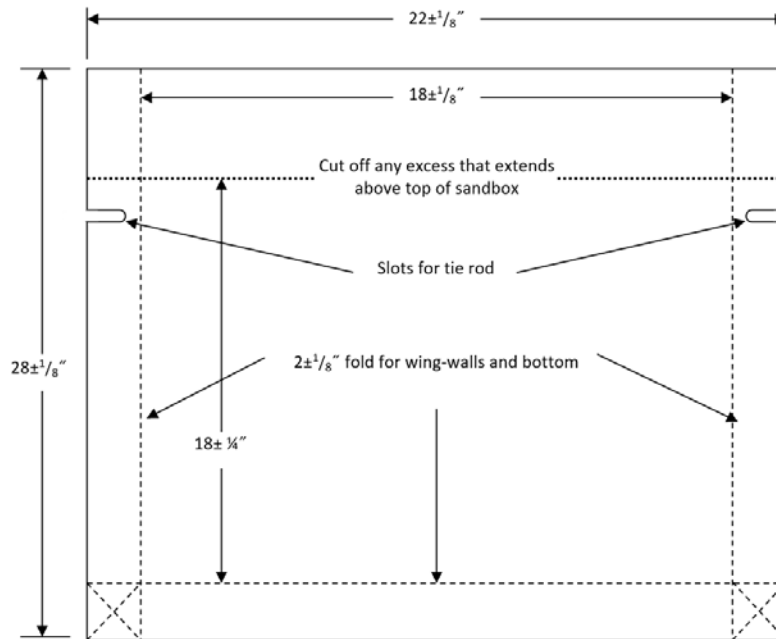

Figure 6: Dimensions of the poster board wall facing (not to scale)
- Facing – One piece of poster board. See Figure 6 for dimensions.
- a) **Reinforcement Fabrication Stage** – Each team will be provided with a single sheet of 60 lb kraft paper approximately 24 in \times 24 in. The team must fabricate all their reinforcing elements from this sheet using authorized construction tools. Fifteen (15) minutes will be allotted for this stage. Teams will be penalized for time exceeding the time limit. After all reinforcing elements are fabricated, excess material will be disposed of and the judges will weigh the reinforcing elements to the nearest 0.01 grams.
- b) **Wall Assembly Stage** – After each team's reinforcing elements have been fabricated and weighed, the team will be provided with a sheet of poster board (22 in \times 28 in) and a roll of packing tape. The team must assemble their wall using these materials and authorized construction tools. Dimensions for the wall facing area shown in Figure 6.